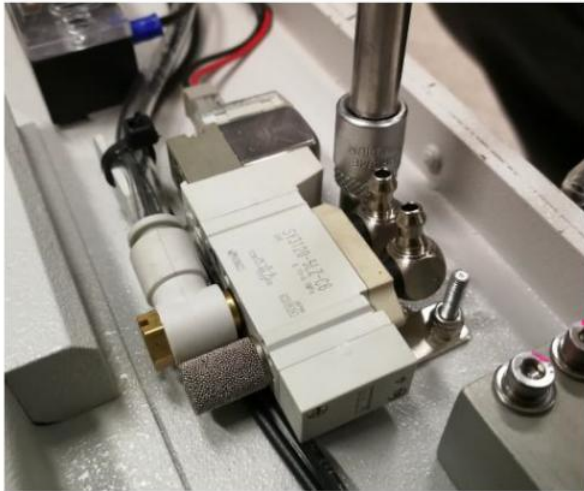

Figure 3
6. Remove 2 x Nut as below Figure 3